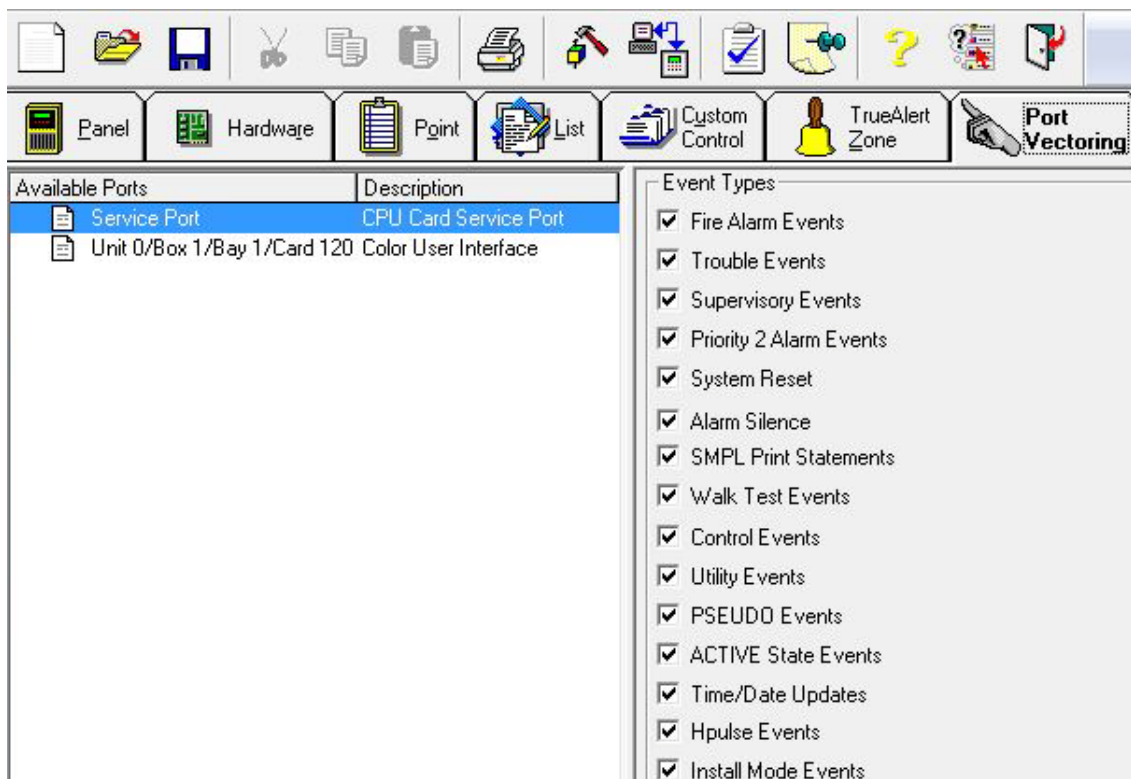

Figure 11-1. Port Vectoring Tab
1. Click on the Port Vectoring tab, located just beneath the row of icons, to view the window used to route events to the RS-232 port or the DACTs. A window similar to the one shown in Figure 11-1 appears.